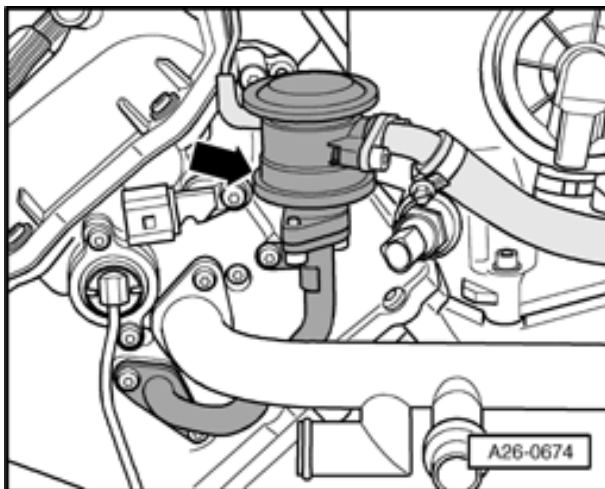

Fig. 4 Secondary air system combination valve
◆ Location ⇒ Fig. 4 ,
- ◆ Location ⇒ Fig. 4 ,